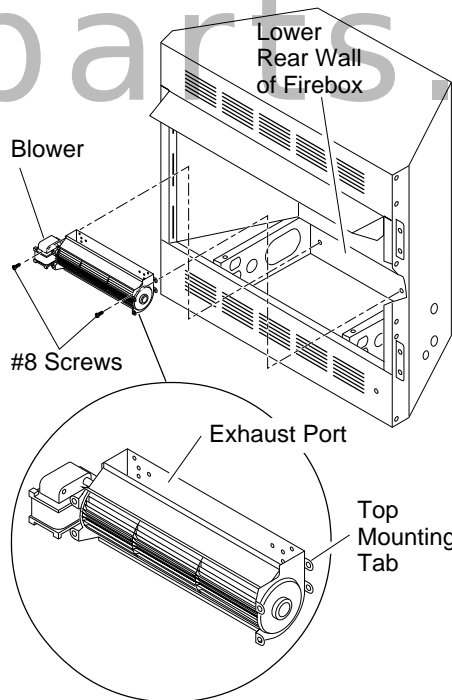

Figure 2 - Mounting Blower to Firebox
4. Place the blower against lower rear wall of firebox outer wrapper with the exhaust port directed upward. Align the holes in top mounting tabs of blower with holes in wall of wrapper (see Figure 2). Using two #8 screws provided, mount blower and tighten screws firmly.